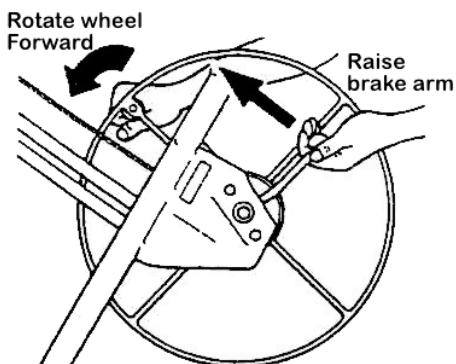

Figure 2
- Hold the winch wheel and brake arm as shown in Figure 2. Rotate the winch wheel forward slightly while you lift on the brake arm to release the brake.